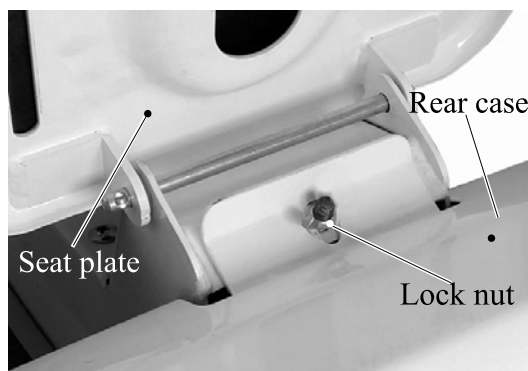

Fig 15.1
- Unscrew the lock nut with attached wrench to unlock the rear case, and then tilt the case backward to access the rear wiring and storage (**Fig 15.1**) .